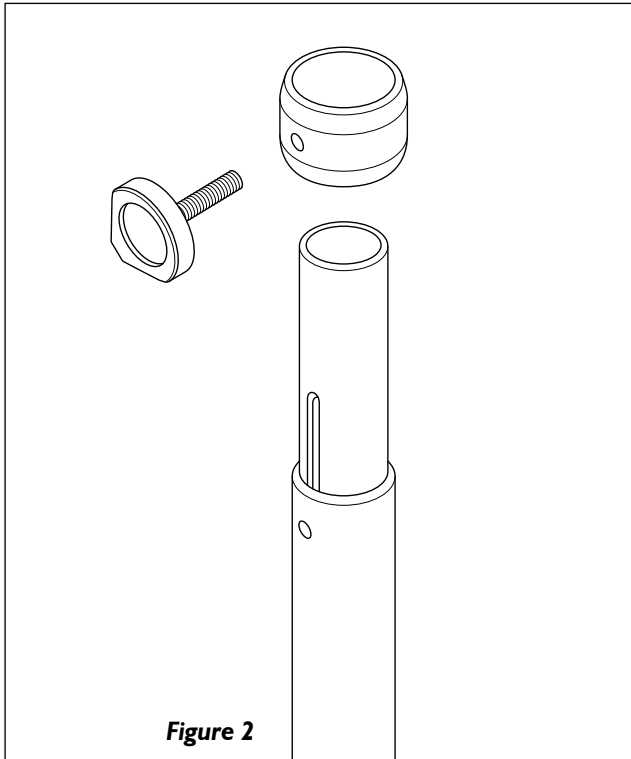

Figure 2
5. Thread the height adjust knob into the height adjust collar. Slide this assembly over the telescoping post assembly, and position it so that the end of the knob is over the hole in the outer post. Thread the knob into the hole, just far enough to allow the collar to stay in place (*Figure 2*, next page).
6. Lift the inner post about four inches and rotate it. You will see a 3/8" slot in the post. Rotate the inner post until the slot is aligned with the height adjustment knob. Thread the knob through the slot to the opposite inner wall of the inner post (*Figure 2*).